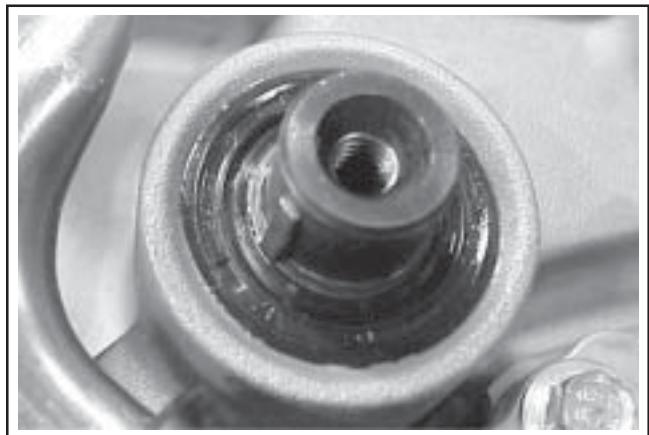

Figure 11-42. Installing Camshaft Key into Keyway.
1. Remove the seal protector and/or protective tape (if used) from over the keyway and make sure the end of the camshaft is clean and free of any nicks or damage. Install and fully seat the key, squarely into the keyway. Be careful not to contact the camshaft seal. Test fit the cam pulley onto the shaft and key; it must slide on **without force or restriction**. Remove the pulley. See Figures 11-42 and 11-43.